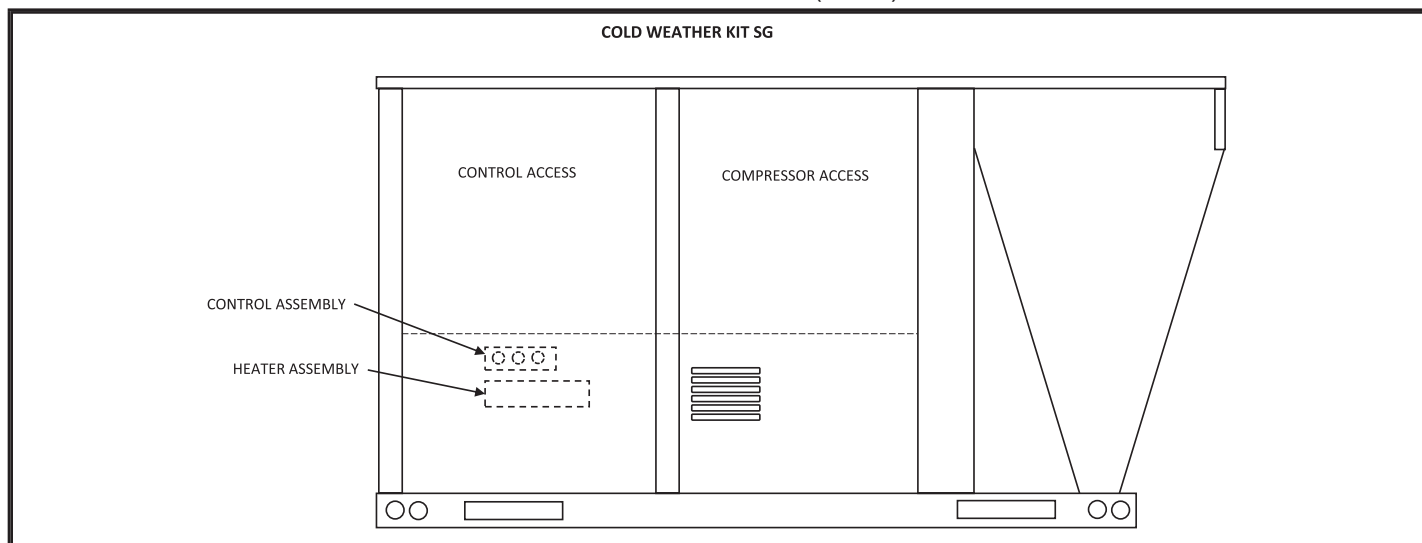

FIGURE 23
- 1 - Disconnect all power to unit and open control access panel, see FIGURE 23.